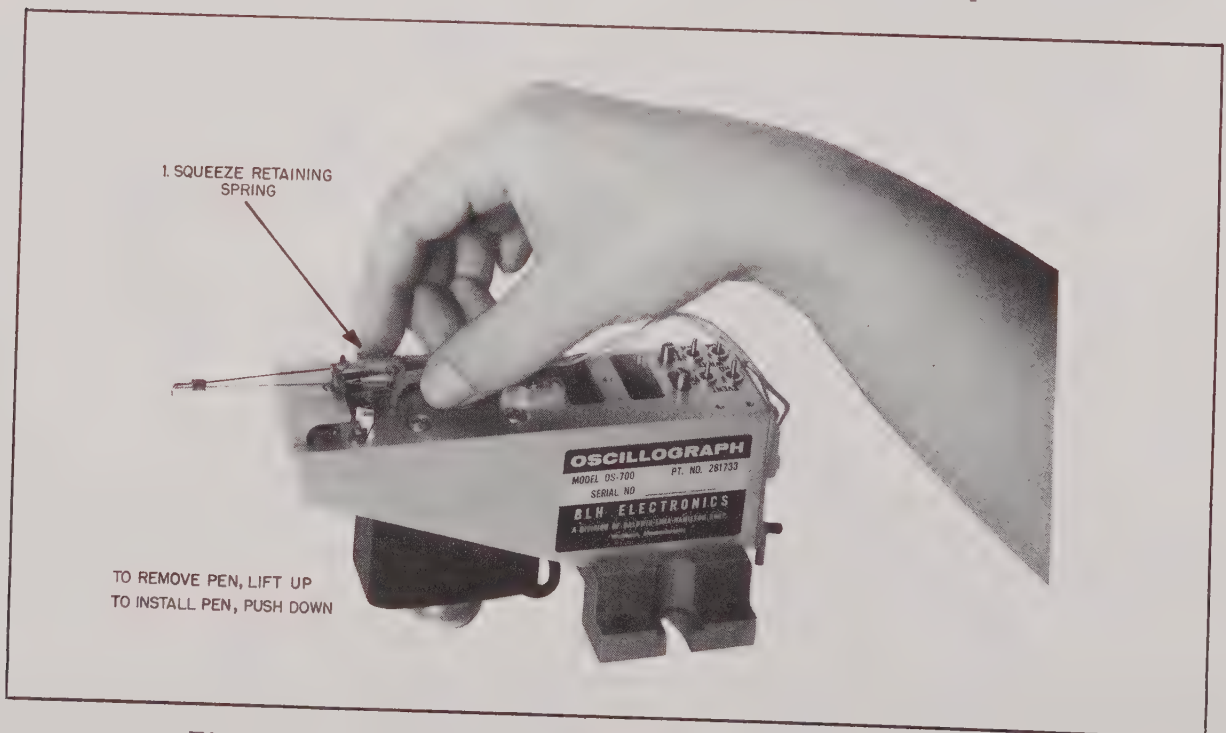

Figure 2-4. Installing and Removing Analog Style, Step 4
4. Push pen assembly down, gently. Release retaining spring and connect wiring or ink feed tubes (figure 2-4).